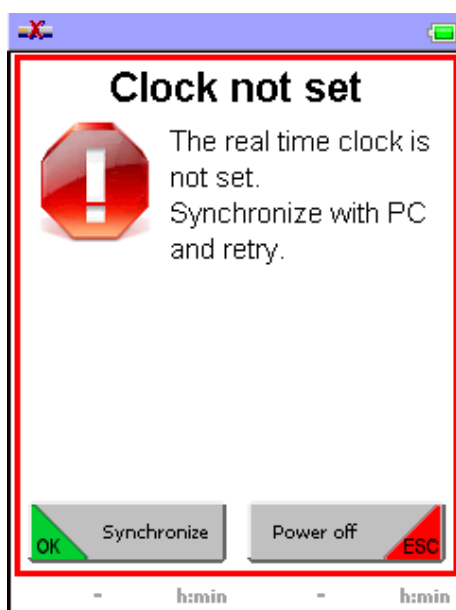

Fig. 40: Message
2. If the control unit (BE) has never been synchronised with a PC, the message Fig. 40 is displayed. Synchronise the control unit with a PC (↪ Chapter 12.11 'Data exchange between PC and control unit' on page 85) and restart the control unit (BE) (↪ 'Starting' on page 70).
3. If the message Fig. 40 is displayed in relation to an already synchronised control unit, the internal clock battery is faulty. Have the battery exchanged by PLARAD[®] service.